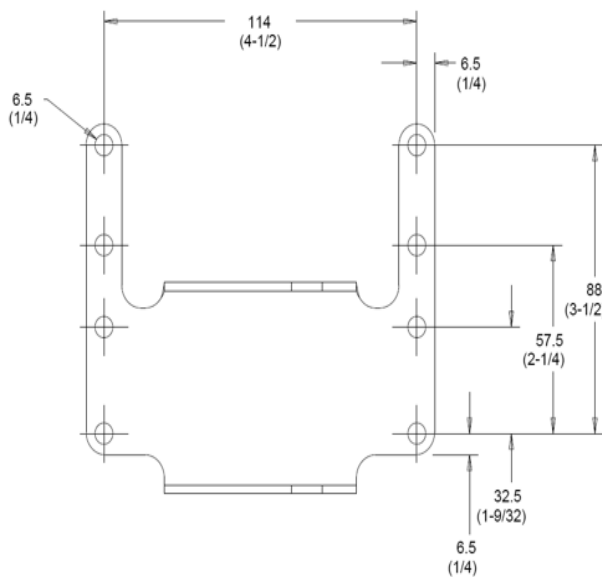

Figure 4: Hole patterns in mounting brackets with dimension, mm (in.)
See Figure 4 for the hole mounting pattern of the mounting brackets. The hole pattern locates the actuator crankarm assembly with respect to the drive blade, jackshaft, or crankarm to be driven.
2. Use a center punch to mark the hole locations for the bracket in the duct or damper frame. See Figure 4.